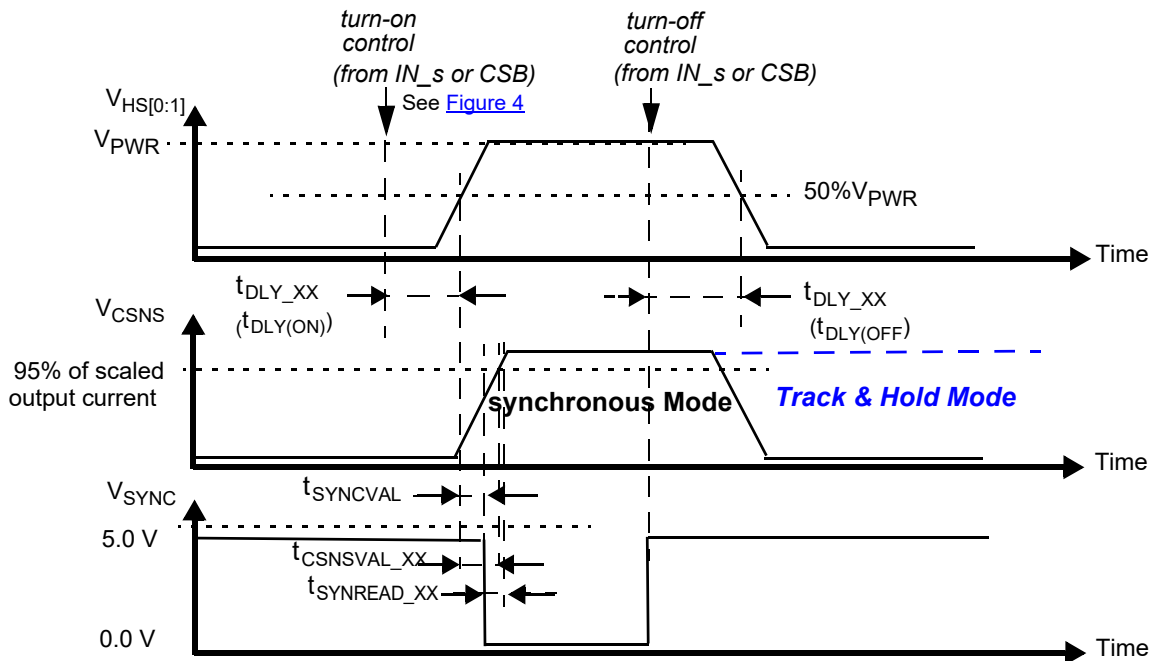

Figure 9. Synchronous and track-and-hold current sensing modes: associated delay and settling time
29. Time required to switch off the channel after detection of overtemperature (OT), overcurrent (OC), SC or UV error (time measured between start of the negative edge on the FSB pin and the falling edge on the output voltage until $V(\text{HS}[0:1]) = 50\%$ of V_{PWR}).
30. Settling time ($= t_{CSNSVAL_XX}$), SYNC output signal delay ($= t_{SYNCVAL_XX}$) and Read-out delay ($= t_{SYNREAD_XX}$) are defined for a stepped load current ($100\text{ mA} < I(\text{LOAD}) < I_{OCLX_A}$ FOR $\text{CSNS_RATIO_S} = 1$, AND $300\text{ mA} < I(\text{LOAD}) < I_{OCLX_A_0}$ FOR $\text{CSNS_RATIO_S} = 0$). See Figure 9 and Output current monitoring \(CSNS\).
The CS pin allows independent current monitoring of channel 0 or channel 1 up to the steady-state overcurrent threshold. It can also be used to sense the device temperature. The different functions are selected by setting bits CSNS1_en and CSNS0_en to the appropriate value (Table 23). When the CSNS pin is sensed during switch-off in the (optional) Track & Hold mode (see Figure 9), it outputs the scaled value of the load current as it was just before turn-Off. When several devices share the same pull-down resistor, the CSNS pins of devices the current of which is not monitored must be tri-stated. This is accomplished by setting CSNS0_en = 0 and CSNS1_en = 0 in the GCR register (Table 10). Settling time ($t_{CSNSVAL_XX}$) is defined as the time between the instant at the middle of the output voltage's rising edge ($HS[0:1] = 50\%$ of V_{PWR}), and the instant at which the voltage on the CSNS-pin has settled to $\pm 5.0\%$ of its final value. Anytime an overcurrent window is active, the CSNS pin is disabled (see Overcurrent detection on resistive and inductive loads). The current and temperature sensing functions are unavailable in Fail-safe mode and in Normal mode when operating without the V_{DD} supply voltage. In order to generate a voltage output, a pull-down resistor is required ($R(CSNS)=1.0\text{ k}\Omega$ typ. and $470 < R(CSNS) < 10\text{ k}$). When the current sense resistor connected to the CSNS pin is disconnected, the CSNS voltage is clamped to $V_{CL(CSNS)}$. The CSNS pin can source currents up to about 5.6 mA.
To synchronize current sensing with an external process, the SYNC signal can be connected to a digital input of an external MCU. SYNC is asserted logic low when the current sense signal is accurate and ready to be read. The current sense signal on the CSNS pin has the specified accuracy $t_{SYNCREAD_XX}$ seconds after the falling edge on the SYNC pin (Figure 9) and remains valid until a rising edge is generated. The rising edge that is generated by the SYNC pin at the turn-OFF instant (internal or external) may also be used to implement synchronization with the external MCU. Parameter $t_{SYNCVAL_XX}$ is defined as the time between the instant at the middle of the output-voltage rising edge ($HS[0:1] = 50\%$ of V_{PWR}), and the instant at which the voltage on the SYNC-pin drops below 0.4 V (V_{SOL}). The SYNC pins of different devices can be connected together to save μ -controller input channels. However, in this configuration, the CSNS function of only one device should be active at a time. Otherwise, the MCU does not determine the origin of the SYNC signal. The SYNC pin is open drain and requires an external pull-up resistor to VDD.